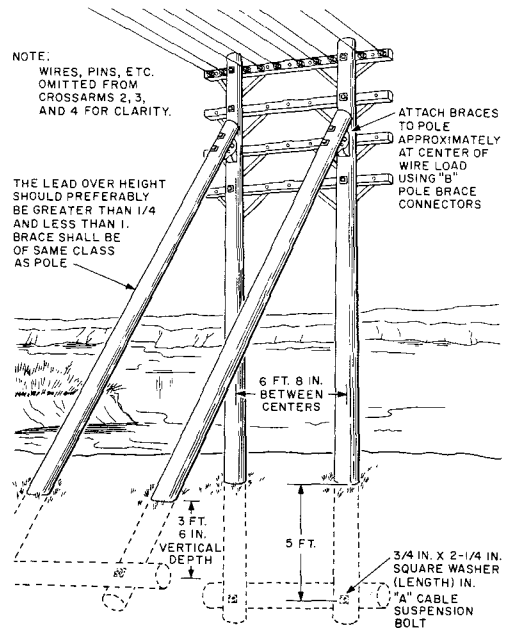

Fig. 11—H Fixture-Push Braced
3.09 A push braced H Fixture may be used where it is impracticable to place head guys, as at submarine cable crossings shown in Fig. 11.